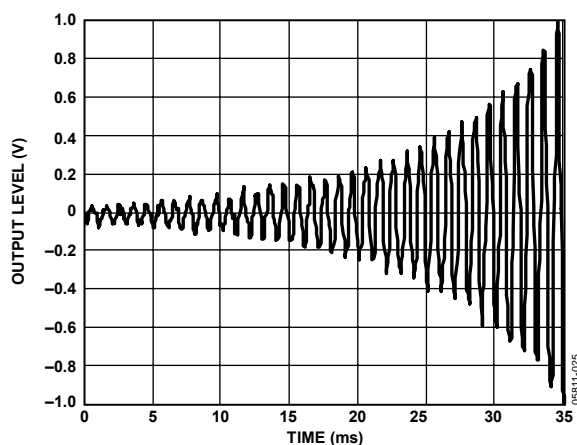
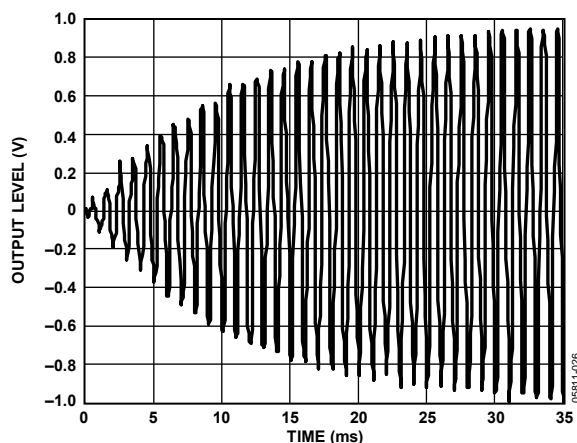
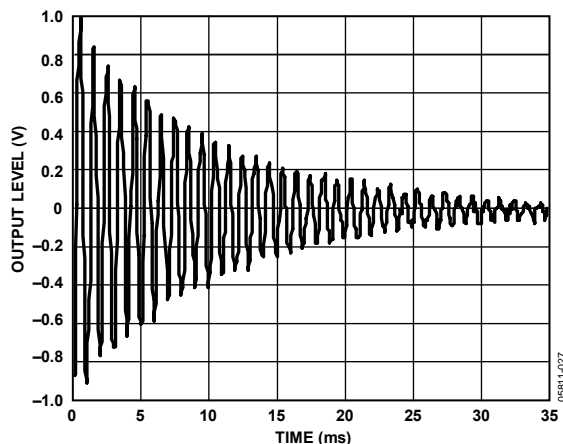

Figure 25. Slew RAM—Constant dB Update Increasing Ramp
Figure 26. Slew RAM—RC Update Increasing Ramp
Figure 27. Slew RAM—Constant dB and RC Updates Decreasing Ramp, Full Scale
An exponential update is accomplished by shifts and additions with a range from 6.1 ms to 1.27 sec (–60 dB relative to 0 dB full scale). When the ramp type is set to 01 (constant dB), each step size is set to the current value in the slew data. When the ramp type bits are set to 10 (RC), the step size is equal to the difference between the values in the target RAM and slew RAM (see Figure 25, Figure 26, and Figure 27).